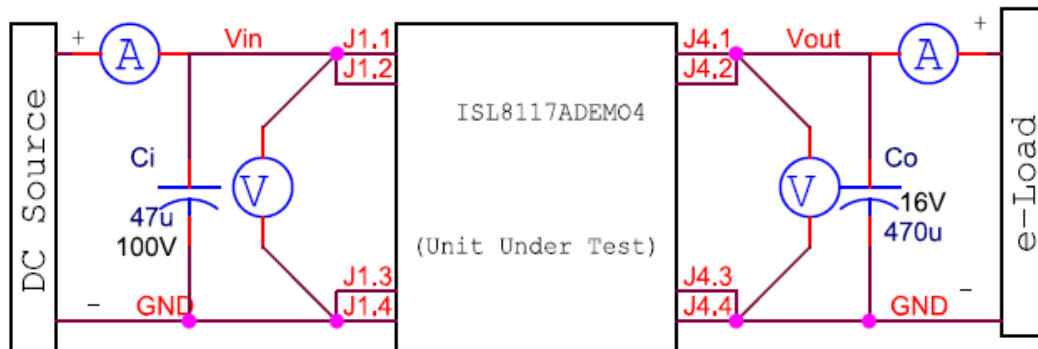
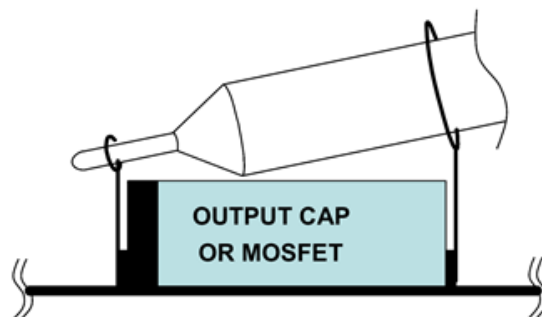

Figure 2.1 Proper Test Setup
Figure 2.2 Proper Probe Setup to Measure Output Ripple and Phase Noise Ringing
- (1) Ensure that the circuit is correctly connected to the supply and electronic loads prior to applying any power. Refer to Figure 2.1 for proper setup.
- (2) Turn on the power supply.
- (3) Adjust input voltage  $V_{IN}$  within the specified range and observe output voltage. The output voltage variation should be within 5%.
- (4) Adjust load current within the specified range and observe output voltage. The output voltage variation should be within 5%.
- (5) Use an oscilloscope to observe output voltage ripple and phase node ringing. For accurate measurement, refer to Figure 2.2 for proper test setup.
As shown in Figure 2.1, 6.5V to 42V  $V_{IN}$  is supplied to J1.1 (+) and J1.3 (-). The regulated 12V output on J4.1 (+) and J4.3 (-) can supply up to 3A to the load.